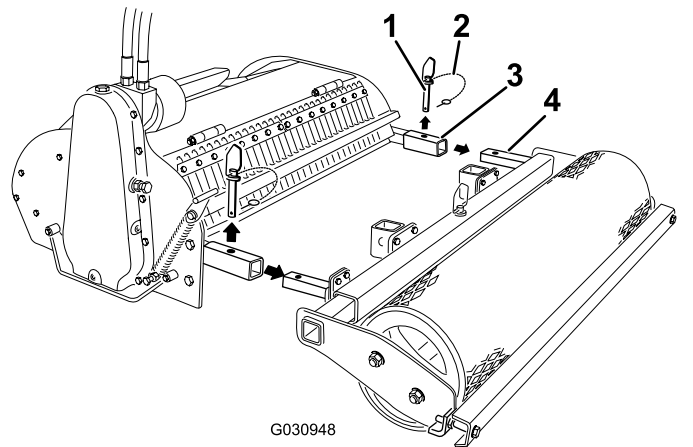

Figure 5
3. Remove the drift pins from the arms of the cultivator (Figure 5).
4. Pull the roller off the cultivator (Figure 5).